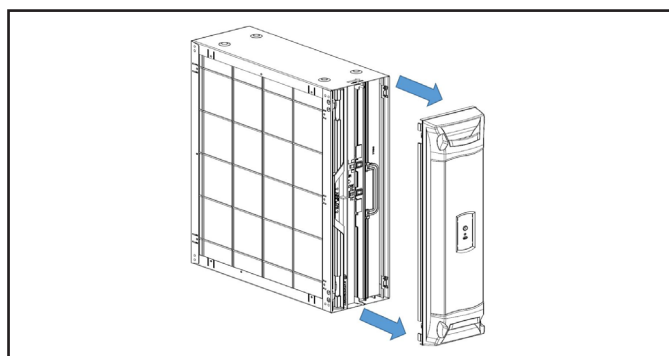

Figure 28 Rotating Door Latches
4. Remove the Door Assembly from Whole Home Air Cleaner by pulling away from the unit assembly. Place on the flat and clean working surface with interior components facing up. See Figure 28.